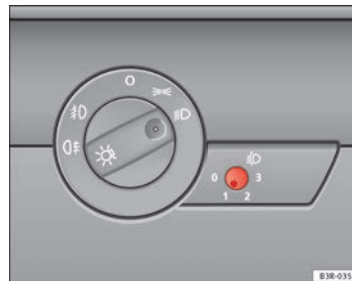

Fig. 86 Headlight range control
- Briefly press the knob  ⇒ Fig. 86 to release it from its set position.